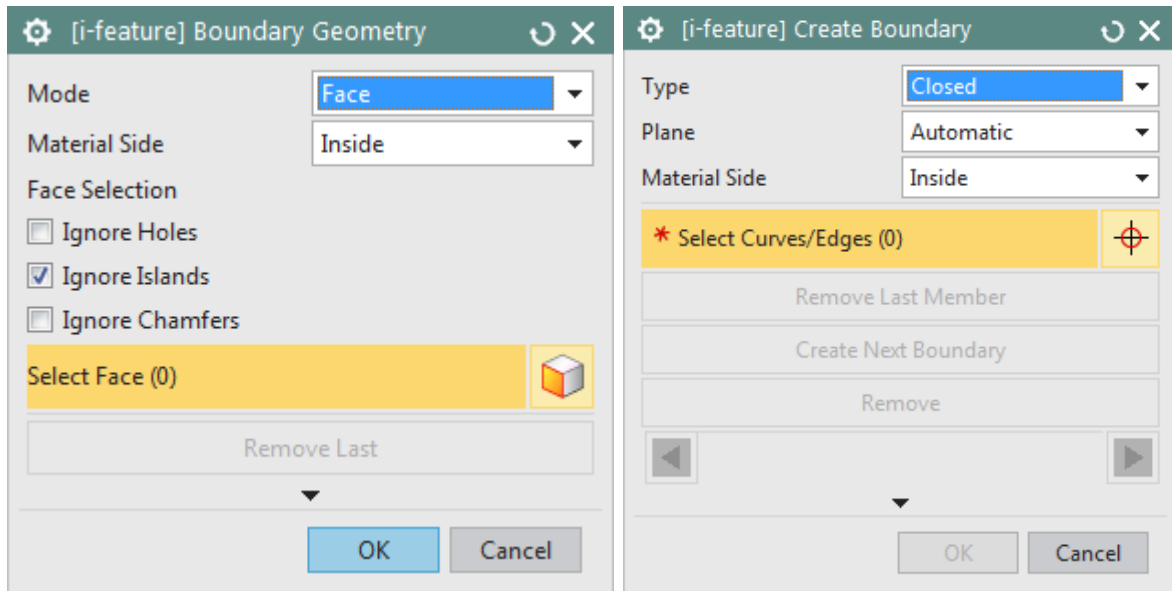

Figure 3.4. The “Boundary Geometry” and “Create Boundary” windows
- the “Boundary Geometry” and “Create Boundary” windows to set and modify the machining geometry (Figure 3.4)